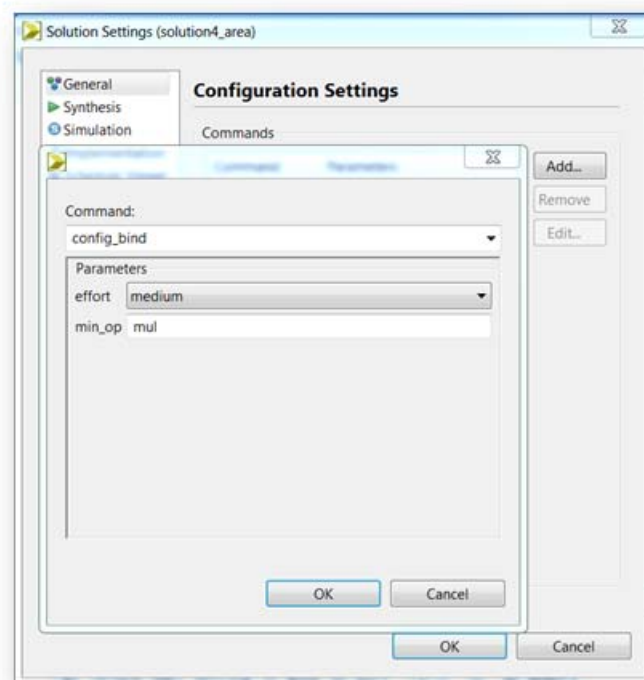

Figure 6-6: Adding Custom Constraints
3. Select **config\_bind** from the drop-down menu and specify **mul** in the **min\_op** (minimize operator) field, as shown in Figure 6-6.